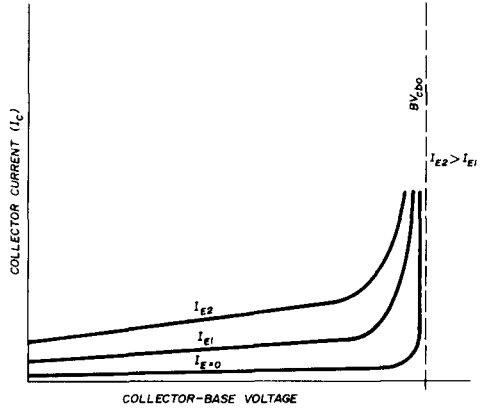

fig. 5. Transistor collector-base breakdown characteristics with the emitter open.
Even if some emitter current is allowed to flow, the breakdown point will still approach BV_{CBO} , but the current increase is not as dramatic as when I_e is zero. Fig. 5 will clarify this. A similar condition exists whenever the base ter-
fig. 5. Symbols used for various mosfets. N-channel, depletion type is shown in (A); n-channel, enhancement-mode type is shown in (B). (C) shows dual-gate, depletion-mode device while (D) shows a diode-protected mosfet.
The basic symbols for the different mosfet types are shown in fig. 5. These symbols signify an n-type channel. However, they can also use a p-type channel - the symbolization is identical with the exception that the substrate arrow must be pointed in the opposite direction. The symbol in fig. 5A refers to a depletion-